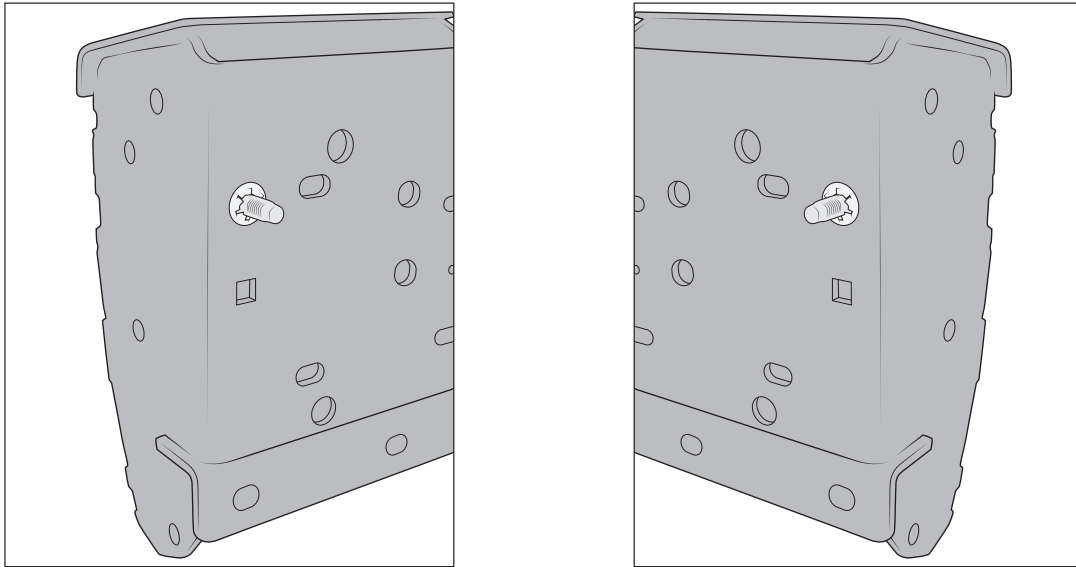

Figure 9
9. Install two M12x35 carriage bolts in the upper-outside corners of the Center Section and secure with push nuts (fig. 9)